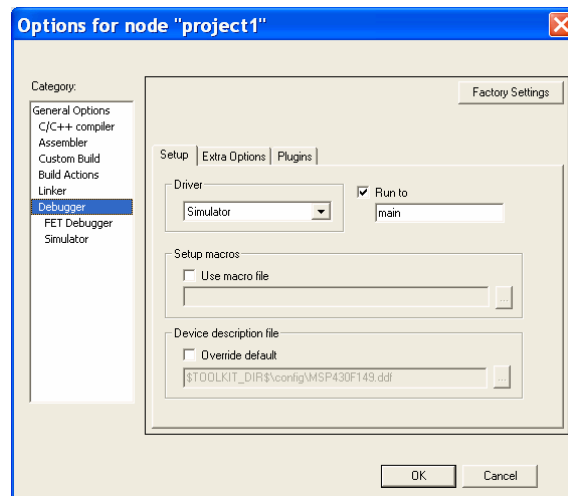

Figure 9. Setting the debugger options.
Step 1. Choose *Project>Options* and then the Debugger category (Figure 9). On the Setup page, make sure that you have chosen Simulator from the Driver drop-down list and that Run to main is selected. Click OK.